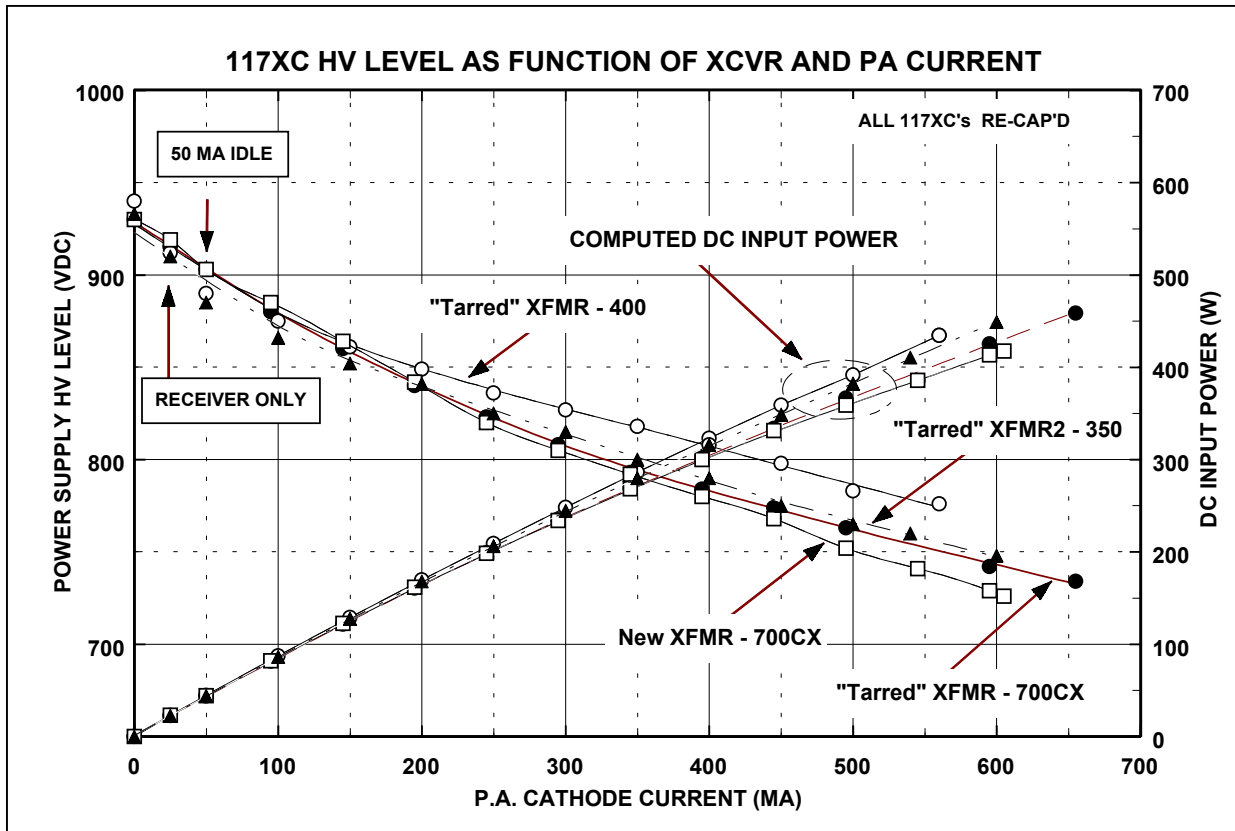

Figure 3-4 Power Supply (117XC) HV Level As Function of Load
The voltage ranges listed in the “Transmit” column reflect the measured HV level in the CW transmit mode when the PA cathode current varied from a 50-mA idle condition to ~580 mA when the transceiver was tuned for maximum RF power output. Measurements shown include VOM errors, so each measurement’s true value may be anywhere within ±2% of the full-scale range, but the relative voltage differentials between the measurements should be much more accurate since they were made with the same meter and are confined to the same portion of the meter’s display range. The 750-V HV measurements under maximum current conditions are consistent with the independent measurements shown in Fig. 3-4 (at 580 mA, that data ranges from 735 to 752 volts).
Therefore, to estimate dc input power levels at a specified cathode current level, it is very desirable to have a good estimate of HV_{plate} to minimize error. To that end, Fig. 3-4 shows detailed comparisons of measured high voltage levels as a function of cathode current for four power supply/receiver combinations.
Low/No Current Loads. The measured high voltage levels for each equipment combination when operated under no-load (at the zero current point), receiver only, and idle current only (50 mA) operating conditions appended to Fig. 3-4 are consistent with expected values. Under these no/low load conditions, all equipment combinations yielded essentially identical measurements. The total data spread for the no-load, zero-cathode current condition was between 930 to 943 volts, while during receiver only conditions the levels were between 911 and 919 volts. Moreover, during 50-mA transmitter PA idle current conditions, the measurement variance was also quite low with values between 883 to 903 volts, only a 20 V spread.
CW Vs. SSB Caveats. Various operating manuals indicate the expected high voltage power supply levels should be approximately: (1) ~925 V under idle current conditions (50 mA), (2) either ~700 V (700CX) or ~720 V (350C, 500C) during TUNE or CW operation, and (3) on the order of 800 V to 850 V during peak SSB loading (variable rather than steady-state modulation). The measurements in Fig. 3-4 only address the TUNE or CW case. These measurements are in fairly close agreement to the Swan values – note that none of the transceivers were equipped with NOS PA tubes, so the specification maximum dc input power and associated cathode current conditions were not necessarily achieved.